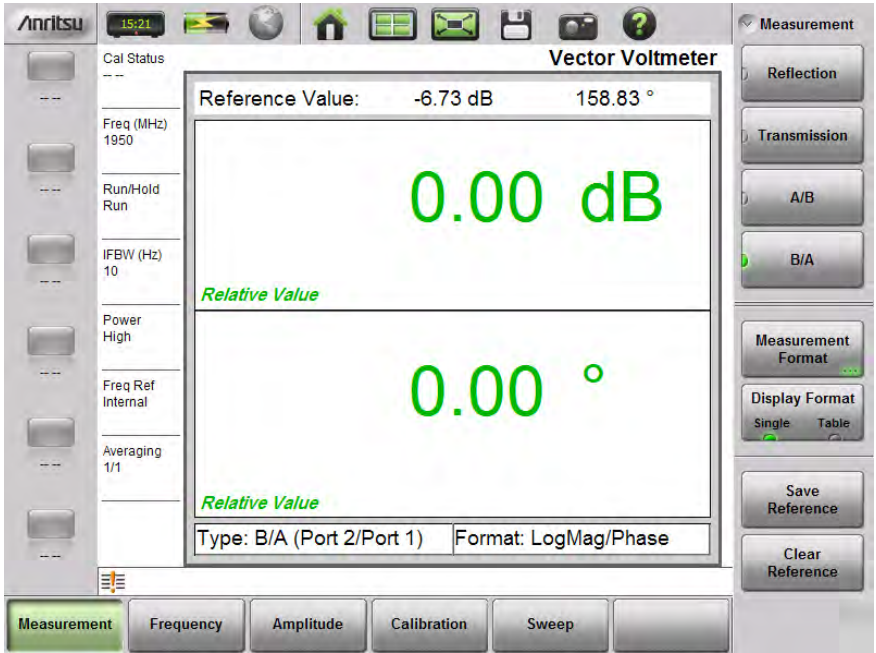

Figure 8-5. First Side of Splitter Measured and Saved as Reference
2. Connect one output side of the splitter to Port 2, and connect a 50 ohm load to the opposite output side. Press Save Reference to use this measurement as reference when you measure the other output side of the splitter. See Figure 8-5.